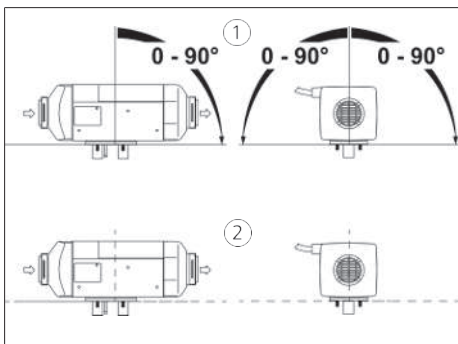

Fig. 3 Permissible installation position for petrol and diesel
①	Diesel
②	Petrol: horizontal only
- ✓ Ensure the correct installation position. See Fig. 3.